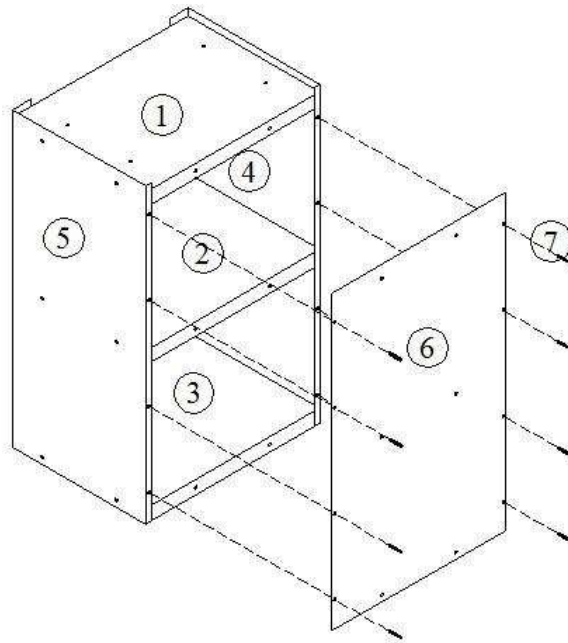

Figure 5
Attach the front panel with Decal (6) with 8 of the sheet metal screws (7) in the outside holes only. As shown in Figure 5